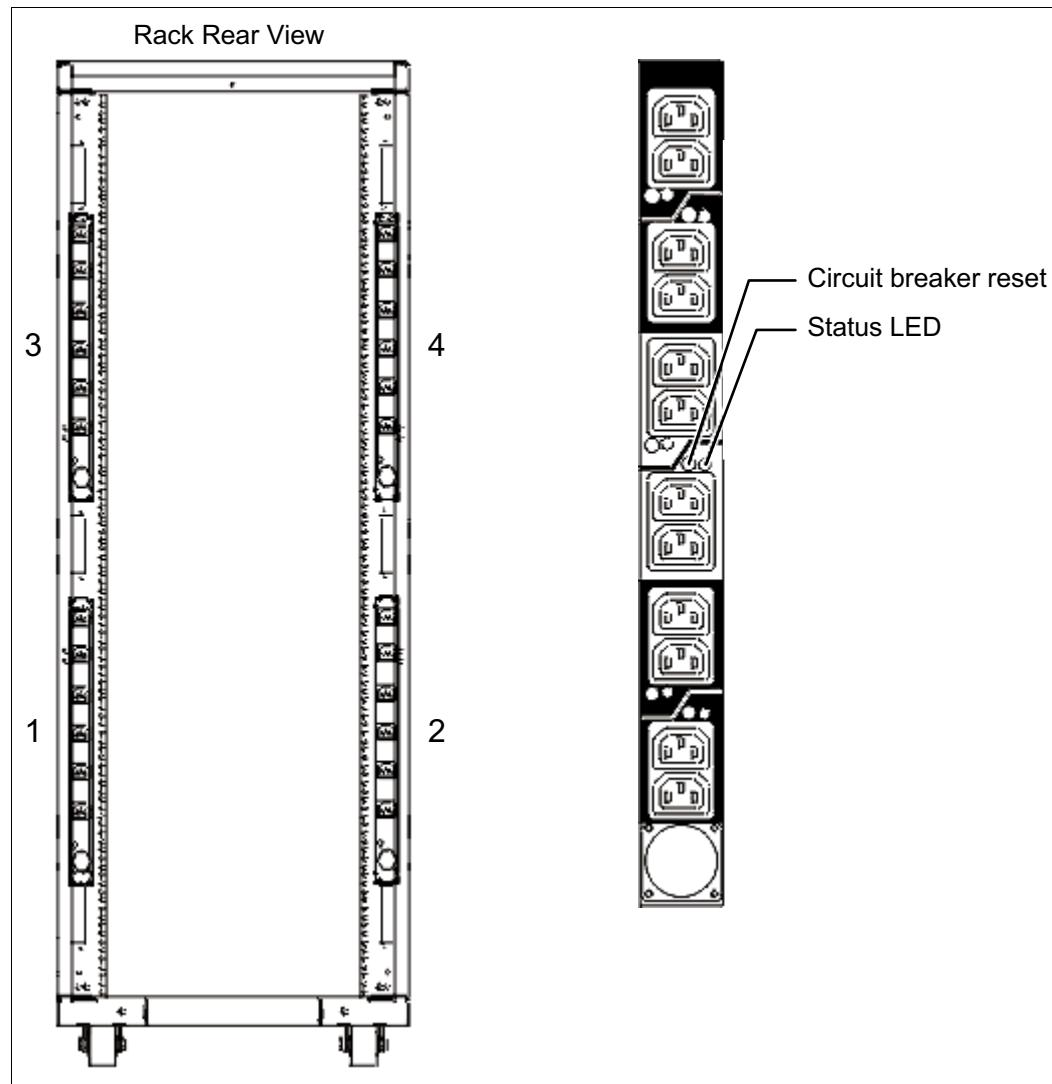

Figure 1-8 PDU placement and PDU view
- ▶ Up to four power distribution units (PDUs) can be mounted in the PDU bays (see Figure 1-8 on page 29), but others can fit inside the rack. For more information, see 1.10.7, “The AC power distribution unit and rack content” on page 29.
Four PDUs can be mounted vertically in the back of the T00 and T42 racks. Figure 1-8 shows the placement of the four vertically mounted PDUs. In the rear of the rack, two additional PDUs can be installed horizontally in the T00 rack and three in the T42 rack. The four vertical mounting locations are filled first in the T00 and T42 racks. Mounting PDUs horizontally consumes 1U per PDU and reduces the space available for other racked components. When mounting PDUs horizontally, the best approach is to use fillers in the EIA units that are occupied by these PDUs to facilitate proper air-flow and ventilation in the rack.